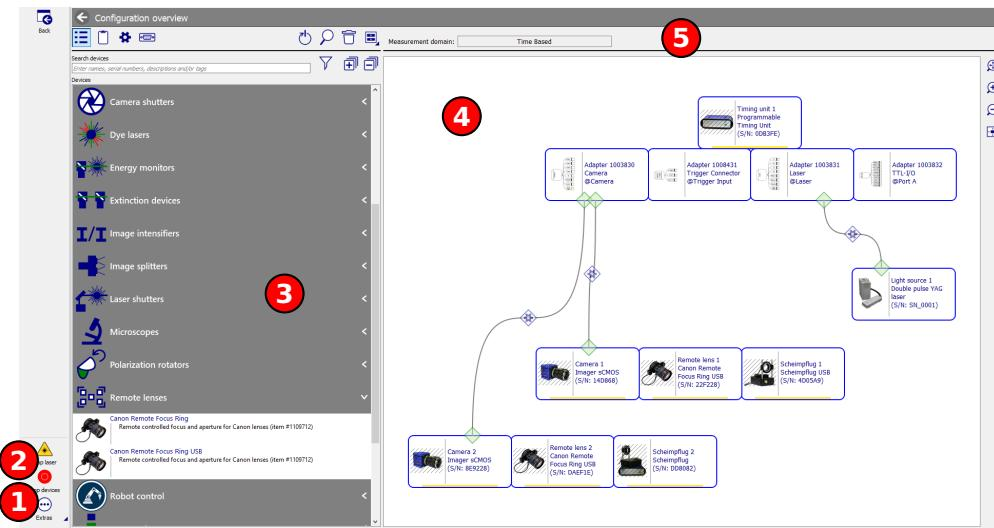
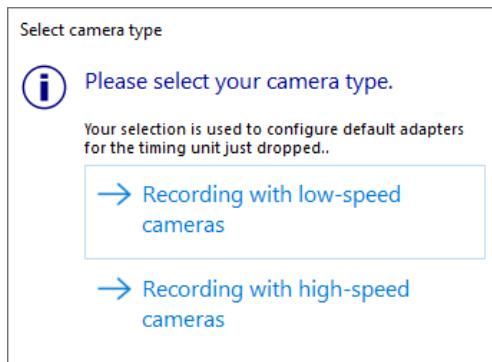

Figure 9.1: Configuration overview window
Figure 9.2: Preselecting camera speed domains
The **Hardware Setup** opens with the *Configuration overview* window (cf. Fig. 9.1) containing two major parts: On the left hand side it shows by default a list of supported devices ③. On the right side the configuration area contains a graphical view of the chosen hardware components ④. A configuration is filled by dragging items from the device list and dropping them into the configuration area. If possible **DaVis** assists the user by preselecting that device category which is most relevant for a following step.
Dropping a *Timing Unit* which can be used for low-speed and high-speed domains **DaVis** asks to choose a domain (cf. Fig. 9.2). This selection connects the domain specific default adapters to the *Timing Unit*. The active domain is displayed on top of the configuration area (cf. ⑤ in Fig. 9.1) and can be changed in the *Timing Unit*'s device settings at any time. Depending on the selected domain the corresponding camera group is automatically expanded for the next step.